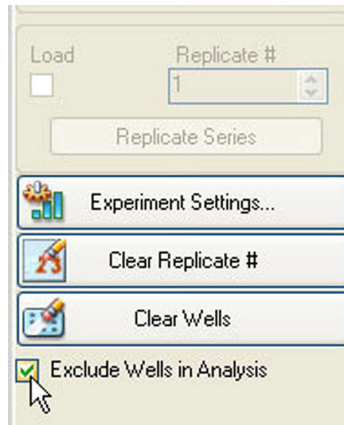

Figure 57. Exclude Wells in Analysis checkbox at bottom of the pane.
3. Click **Exclude Wells in Analysis** (Figure 57) to exclude the selected wells. This checkbox is at the bottom of the Plate Editor controls on the right side of the window.